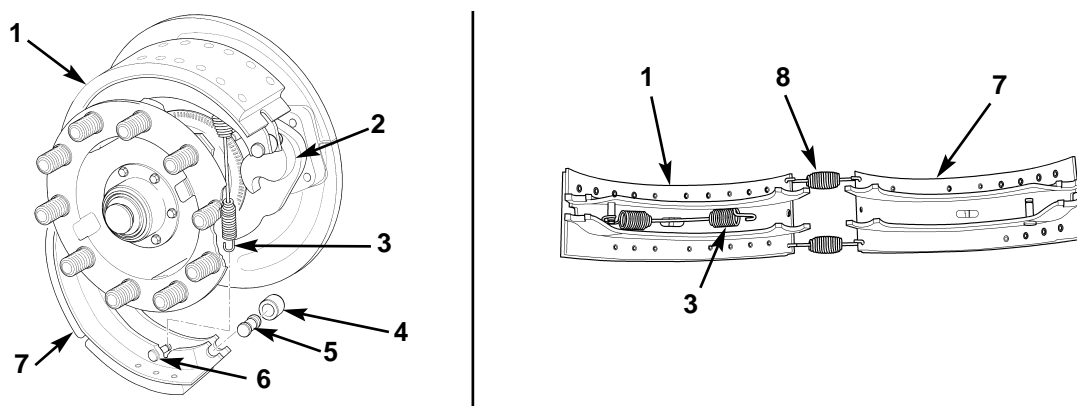

Figure 21. Removing Front Brake Shoes.
3. Using suitable pry bar, lift upper and lower brake shoes (figure 21, items 1 and 7) at camshaft (figure 21, item 2) one at a time, and remove two shoulder pins (figure 21, item 5) and rollers (figure 21, item 4) from between camshaft (figure 21, item 2) and brake shoes (figure 21, items 1 and 7).
4. Disconnect shoe release spring (figure 21, item 3) from pin (figure 21, item 6) on lower brake shoe (figure 21, item 7), and remove upper and lower brake shoes (figure 21, items 1 and 7) and two shoe retaining springs (figure 21, item 8) together as an assembly, as shown in figure 21.
5. Repeat steps 3 and 4 for removal of opposite front brake shoes (figure 21, items 1 and 7).